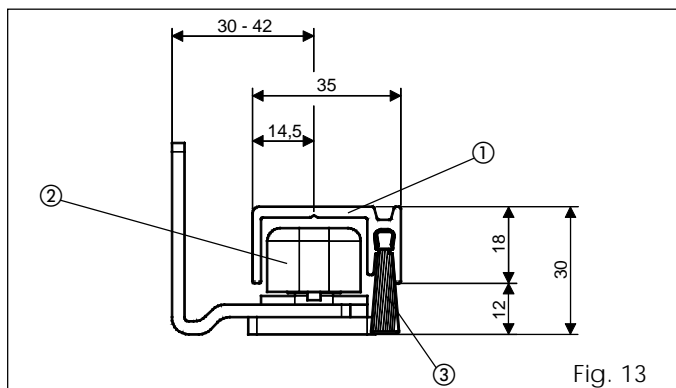

Fig. 13
- Assemble the sliding blocks, considering in mind the dimensions in figs. 13 and 15.